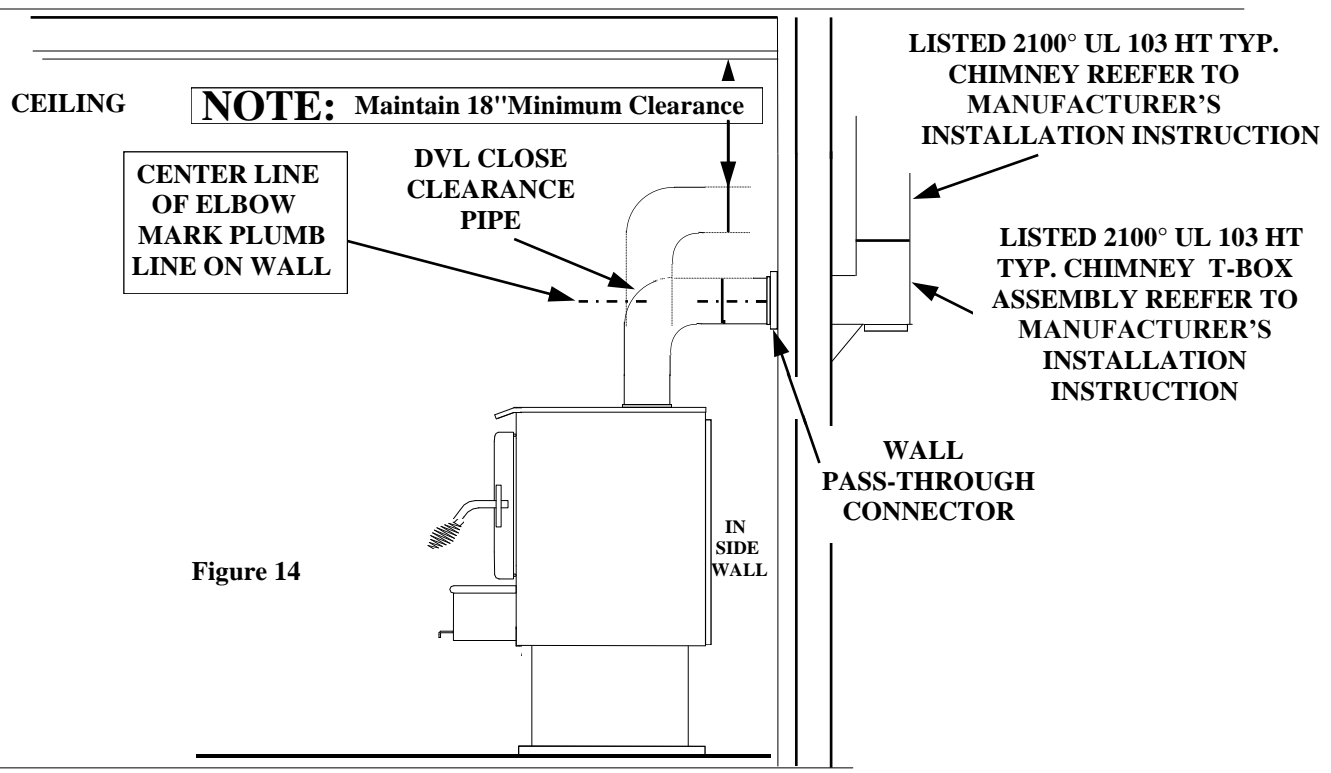

Figure 14
(See Page 22, Figure 14).
3. Measure up so there will be at least 1/4" rise per foot of horizontal connector pipe, maintaining clearances to ceiling as noted in (Page 21, Figure 14). This will give you center of hole for chimney penetration.
5. Connect the DVL close clearance pipe to tee-box, per manufacturer's instructions, DVL close clearance pipe is to be connected with (3) sheet metal screws or rivets to connector collar on heater (See Page 22, Figure 14).